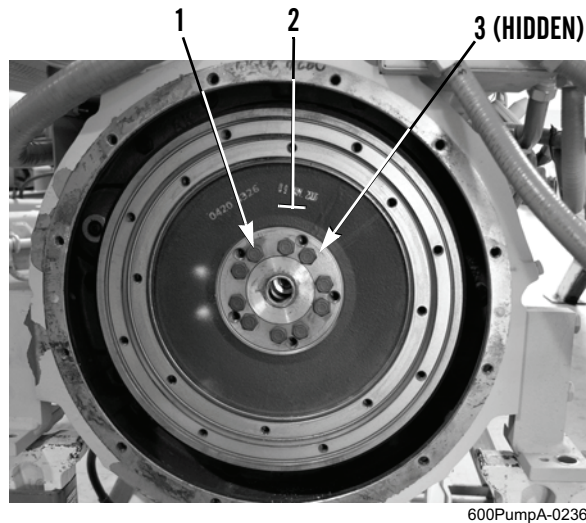

Figure 1. Removing Flywheel.
1. Install retainer tool on crankshaft (Figure 1, Item 3) at vibration damper end to hold crankshaft while removing bolts (Figure 1, Item 1) from flywheel (Figure 1, Item 2).
2. Remove ten bolts (Figure 1, Item 1) from flywheel (Figure 1, Item 2) and crankshaft (Figure 1, Item 3). Discard bolts.
3. With assistance, remove flywheel (Figure 1, Item 2) from crankshaft (Figure 1, Item 3).